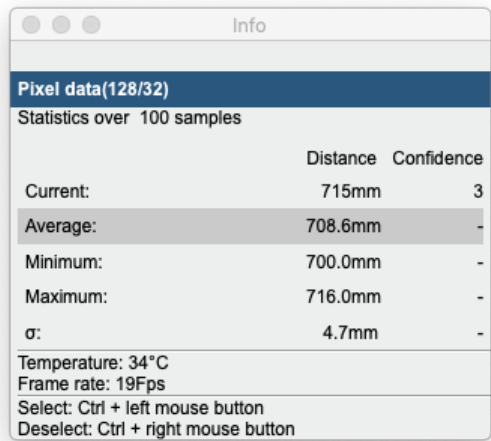

Figure 18: Pixel information window
- "Pixelinfo" allows to select a single pixel in the active live image by left mouse click. Current information about this pixel are shown in the decided information window (Figure 18).